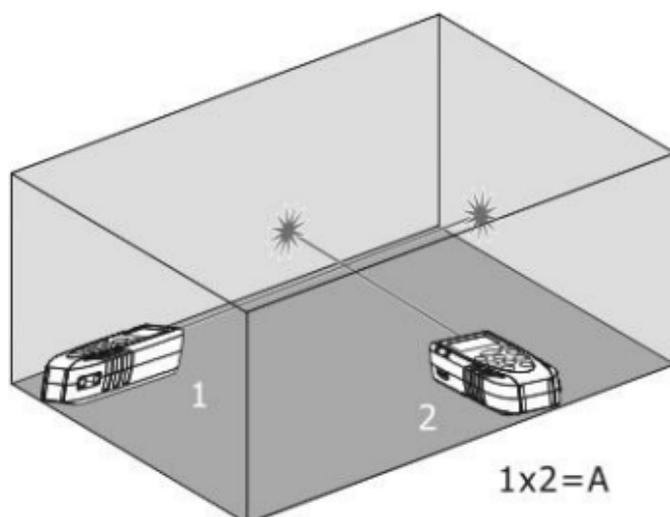

Fig. 5: Example of area measurement
3. Press the  key to perform the first measurement (length) of the surface concerned (see Fig. 5). The corresponding value appears on the first partial display. The symbol "" appears on the display with side "2" flashing
4. Press the  key again to perform the second measurement (width) of the surface concerned (see Fig. 5). The corresponding value appears on the second partial display, while the (up-to-date) total value of the area appears on the resulting display